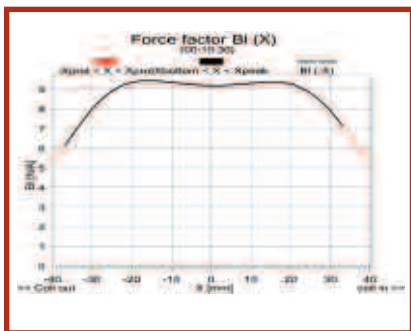

Figure 3
Part 1 of the objective measurement consists of large signal analysis followed by the LEAP 5 analysis. Using the Klippel analyzer (on loan from Klippel GmbH), Pat Turnmire, CA&E reviewer and CEO of Redrock Acoustics, performed the large signal analysis and provided the BI (X) curve shown in Figure 3. The black curve is the BI curve and shows the motor strength of the woofer as it moves in both directions from center rest position. The lighter curve is a type of displacement curve, and if both curves were identical, the motor system's motion in and out of the frame would be perfectly symmetrical. When a woofer is totally linear (linear would mean that the woofer motion matches the input signal exactly with no distortion), the BI curve should be centered on the 0mm point (where the cone is positioned when there is no signal) and symmetrically decrease with the same slopes in both directions of voice coil travel. When a woofer exhibits a forward or rearward offset it may indicate the magnetic and mechanical systems are not absolutely optimal. If the motor strength decreases more rapidly in one direction (usually the outward direction) than the other, the result is increased levels of distortion at high operating levels. It is not uncommon, however, for a woofer voice coil to be deliberately offset a few millimeters in order to keep the motor more linear in the 90-110dB SPL range, which exactly describes the situation with the Stroker Pro.
manual, a 2.7ft³ sealed box with no fill material and a 3.0ft³ ported box tuned to 36Hz with two 4" diameter vents and also with no fill material. The LEAP 5 graph curves in Figure 3 show the SPL at 2.83 volts (black curves) in half-space, 2.83 volts in an average 154ft³ car compartment (blue curves), and at the SPL at a power level required to get maximum linear excursion (red curves, also half-space). The sealed box curves are solid lines and the ported enclosure curves are the dashed curves. The 2.83-volt results produced an F3 of 43Hz for both box types. Increasing the simulated input voltage for the 2.7ft³ sealed box computer simulation to 150 volts increased excursion to the Xmax +15% level and pushed the SPL to a seriously devastating 126dB. The 3.0ft³ vented box computer simulation took 126 simulated volts to drive the Stroker Pro to just beyond Xmax (Xmax + 15% or 36.8mm for the 15" Stroker woofer) and resulted in an SPL of an extremely loud 128dB! This monster definitely